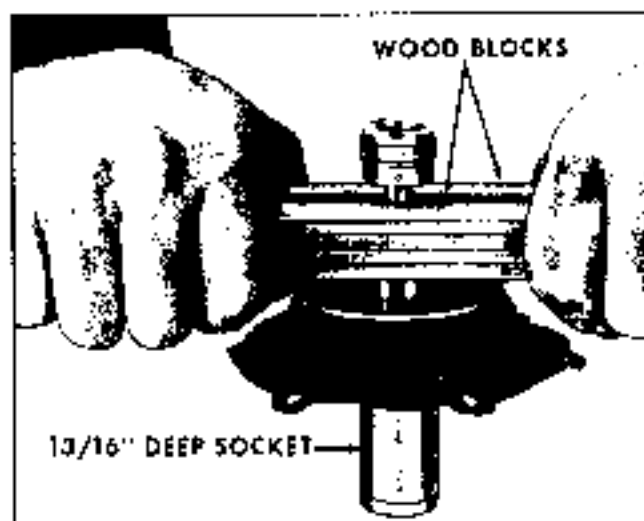

Fig. 4-22 Installing Diaphragm Retainer
2. Using a 13/16" deep socket as a retainer installer, press against the piston shoulder on the first stage housing side with wood blocks to seat retainer. The wood blocks used in the illustration are each 3/4" x 3/4" x 12" (Fig. 4-22).